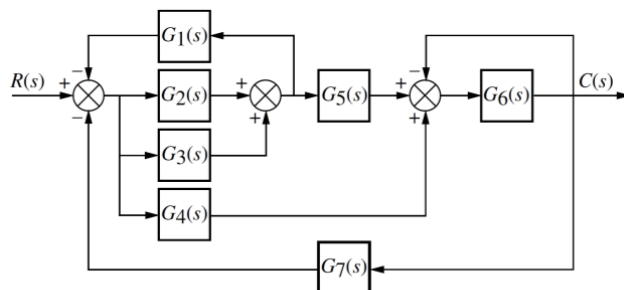

FIGURE P5.9
9. Reduce the block diagram shown in Figure P5.9 to a single transfer function, $T(s) = C(s)/R(s)$. [Section: 5.2]